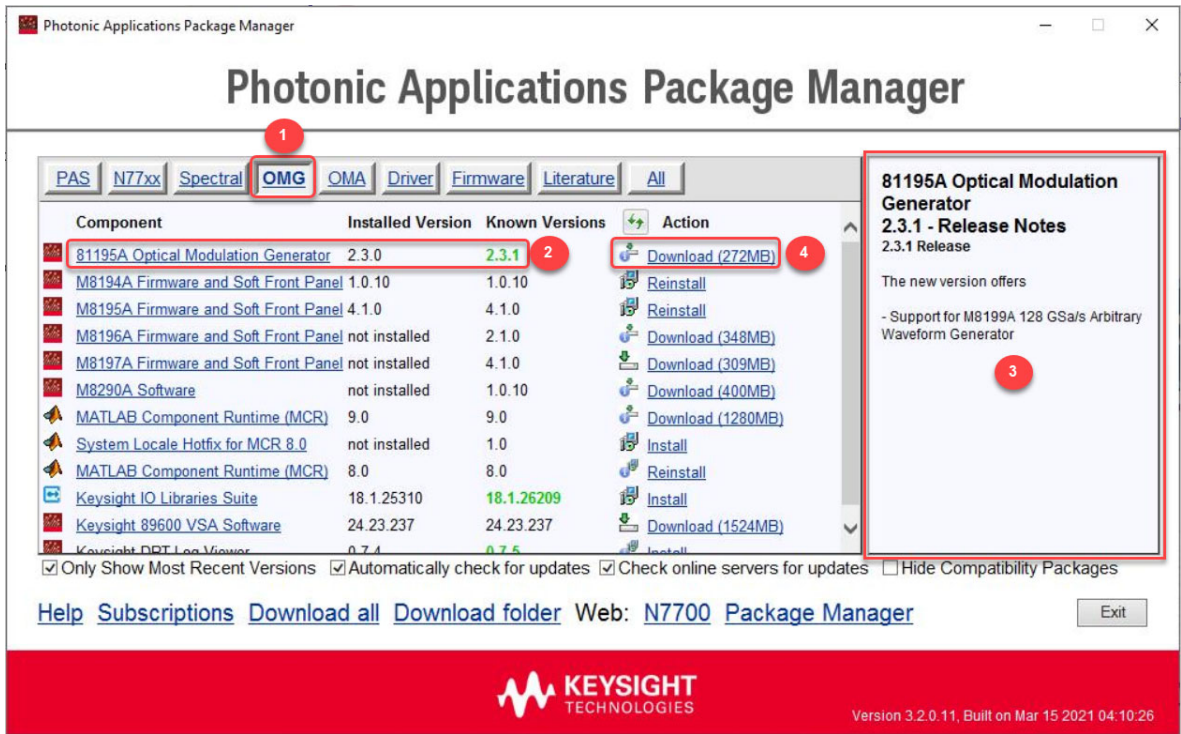

Figure 1 Photonic Applications Package Manager
The Package Manager, shown in the Figure 1 on page 16, is used for other Keysight photonic applications as well, so you may have to switch to the OMG tab (1) to see the actual OMG related packages. This will happen automatically, when the Package Manager is launched from the 81195A OMG software’s Help menu or the M8195A software’s start menu folder.